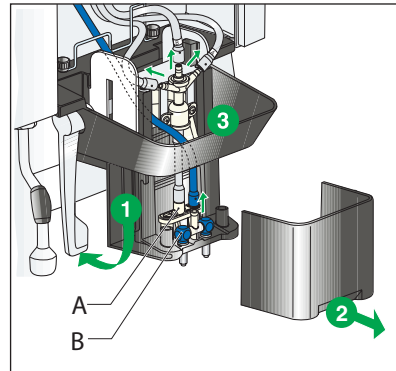

Fig. 1
- 1 Lower the nozzles lever. (Fig. 1)
- 2 Remove the nozzles cover. (Fig. 1)
- 3 Disconnect the tubes from the cappuccino maker nozzle (A) and the flow divider nozzle (B). (Fig. 1)